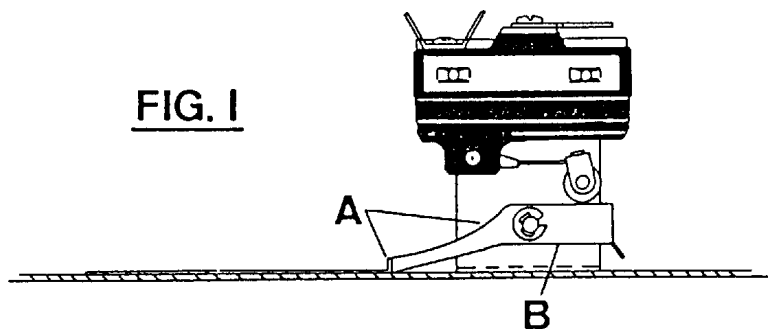

FIG. 1
2. Place one "A" and two "B" diameter pins inside the drying compartment between the rim of the basket opening and the rim of the door opening in the positions shown in Figure 1 and Figure 2. Check the two "B" pins for equal clearance.
2. Lay air switch assembly on flat surface. Adjust air blade at "A" (FIGURE 1) so that air blade lays flat and surface "B" is parallel to the flat surface.